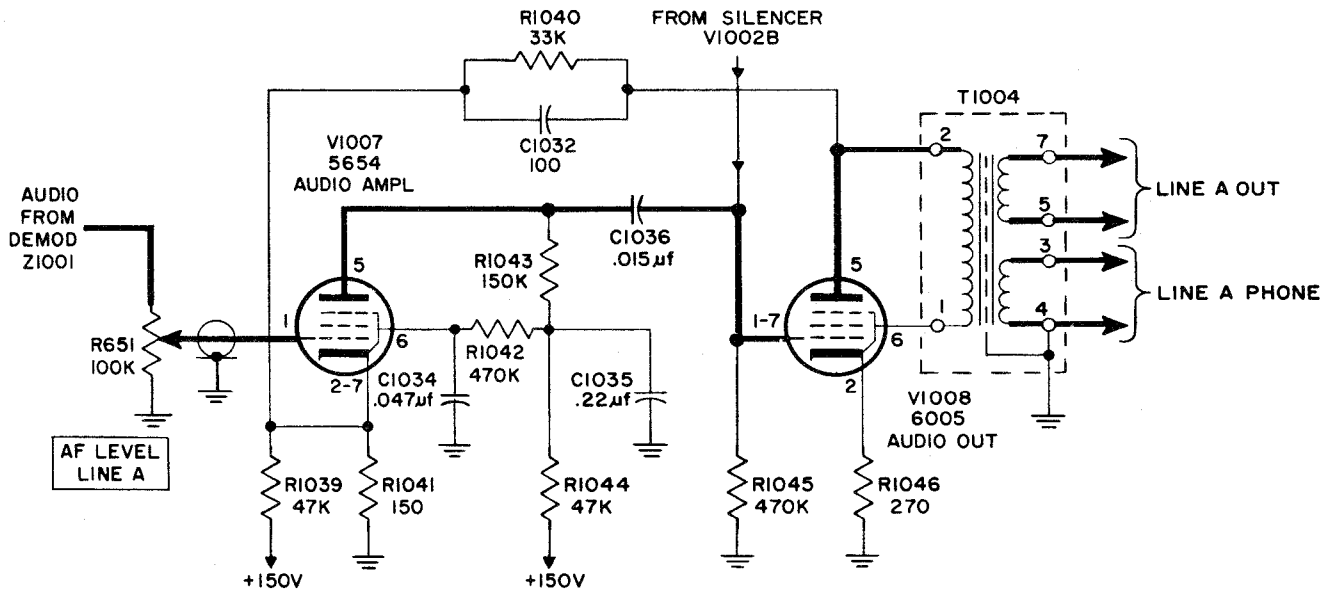

Figure 4-30. Audio Amplifiers V1007 and V1008, Simplified Schematic Diagram
e. AUDIO AMPLIFIERS V1007 and V1008. (See figure 4-30.)—Audio amplifier V1007 and V1008 are audio output stages. The level of input to V1007 is controlled by R651, and the amplified output of V1007 is developed across plate load resistor R1043 and applied to V1008 through capacitor C1036. The output of V1008 is developed across output transformer T1004, which is common to the USB and AM detector-amplifiers. Only one of these sections operates at a time, the selection being made by the RECEPTION A.M./S.S.B. switch on the lower demodulator panel. T1004 has two secondary, or output, windings, one to LINE A OUT, the other to LINE A PHONES.
way of 1-megohm resistor R1010. The other is a positive voltage from a voltage divider consisting of R1008, R1012, and R1009 by way of R1011 (figure 4-31). The plate circuit of V1002B contains the coil of relay K1001, the contacts of which are normally open. When the relay coil is energized enough to close the contacts, the grid circuit of audio amplifier V1008, is shorted to ground (see figure 4-30).